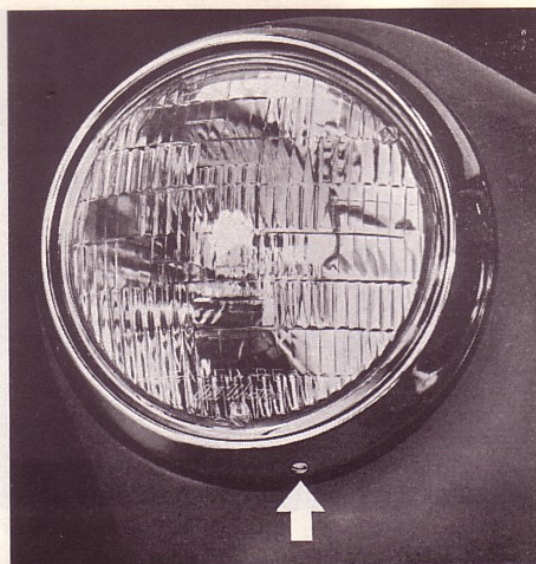

Fig. 79. Removing the headlamp rim
1. Remove the headlamp rim as shown in Fig. 79.